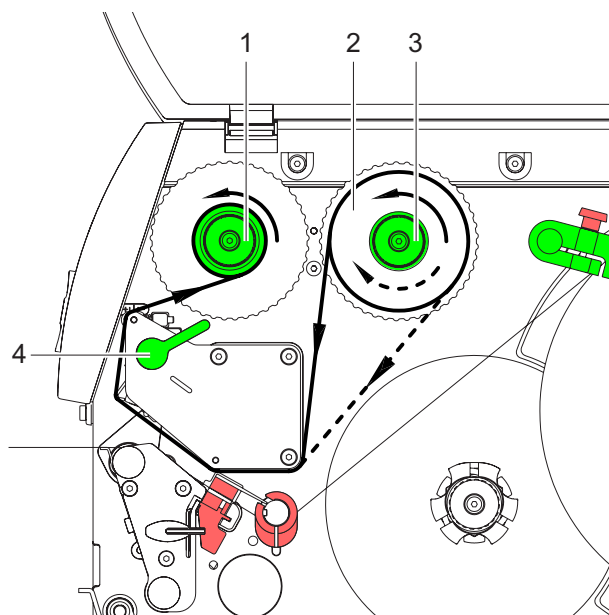

Fig. 8: Feed path of the transfer ribbon
2. Turn lever (4) counterclockwise to lift the printhead.
3. Slide transfer ribbon roll (2) onto the ribbon supply hub (3) until it stops and so that the color coating of the ribbon faces downward when being unwound. No rotation direction is specified for the ribbon supply hub (3).
4. Hold transfer ribbon roll (2) firmly and turn knob on ribbon supply hub (3) counterclockwise until the transfer ribbon roll is secured.
5. Slide suitable transfer ribbon core onto the transfer ribbon take-up hub (1) and secure it in the same way.
6. Guide transfer ribbon through the print unit as shown in Fig. 8.
7. Secure starting end of transfer ribbon to the transfer ribbon core (1) with adhesive tape. Ensure counterclockwise rotation direction of the transfer ribbon take-up hub here.
8. Turn transfer ribbon take-up hub (1) counterclockwise to smooth out the feed path of the transfer ribbon.
9. Turn lever (4) clockwise to lock the print-head.
1. Turn lever (4, Fig. 8) counterclockwise to lift the printhead.